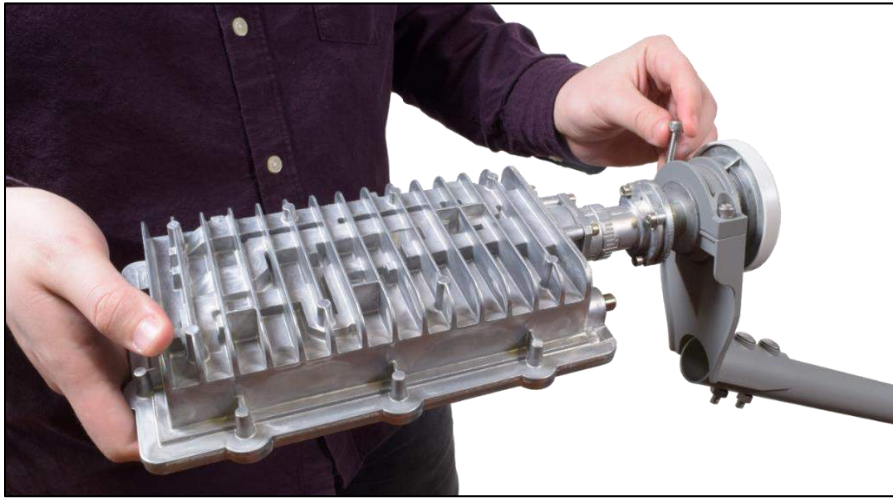

Figure 21: Securing the radio – Step 2
2. Install the two $\frac{1}{4}$ " hex bolts and tighten as shown in Figure 21.